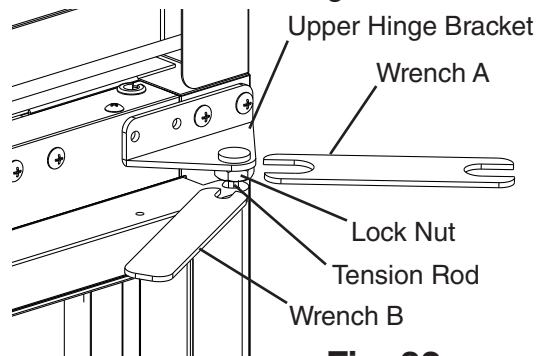

Fig. 32
- 3) At the upper hinge bracket, place wrench B on the tension rod and hold (prepare for tension pressure), then using wrench A, loosen the lock nut. See Fig. 32.